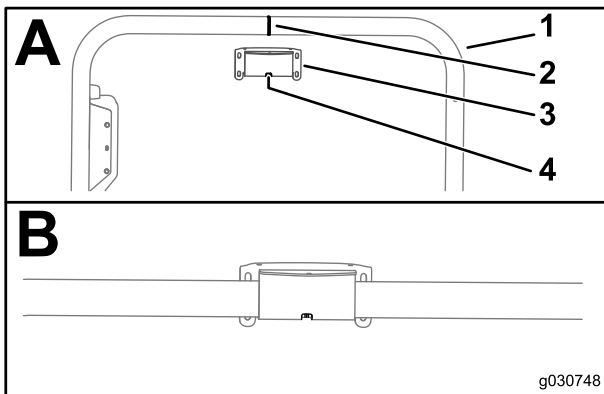

Figure 142
1. Align the slot that is in the center of the receiver mount with the weld seam at the centerline of the ROPS tube (Figure 142).